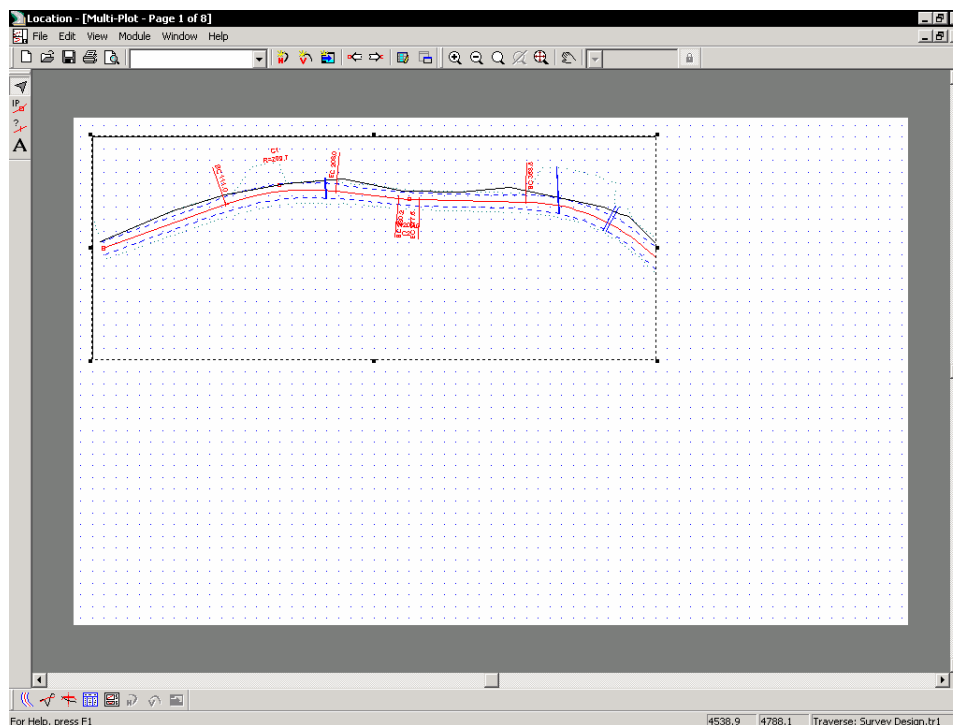

Figure 9.2: Plan Sub-view After Sizing and Positioning
7. Resize and reposition the Plan sub-view. See the Figure 9.2.